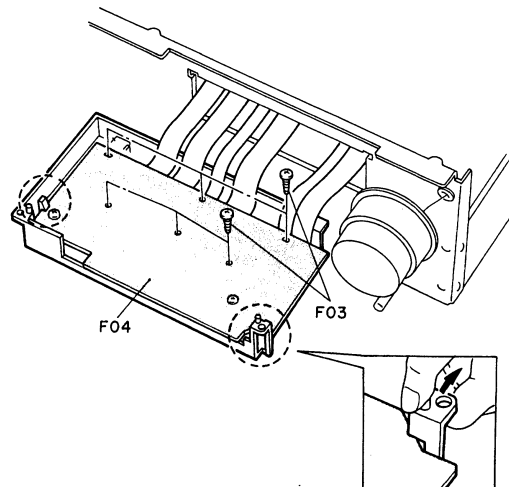

Fig. 2.3.2
- (3) Loosen screws F03 (6 pcs.), unhook Claws (2 pcs.), and remove F04 (Control Switch & Display P.C.B. Ass'y). Refer to Fig. 2.3.2.